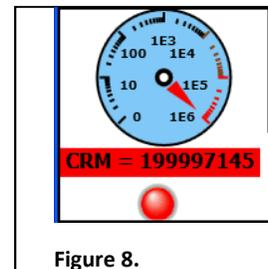

Figure 8.
- 4) Count rate meter (CRM), in counts per second (cps). If an alarm is triggered, based on the **Alarm threshold** entry discussed in Section 3.3.4.4, this field flashes red (Figure 8). In addition, if the **Play sound when alarm triggered** checkbox is marked on the setup screen, an audio alarm sounds. The count rate can be read from user-written software.
- 5) Data acquisition indicator. When counter is enabled, the “LED” blinks red (Figure 8).